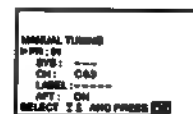

Fig. 12
- 5 Press Δ or ∇ until "----" appears in the SYS position. (See Fig. 12.)